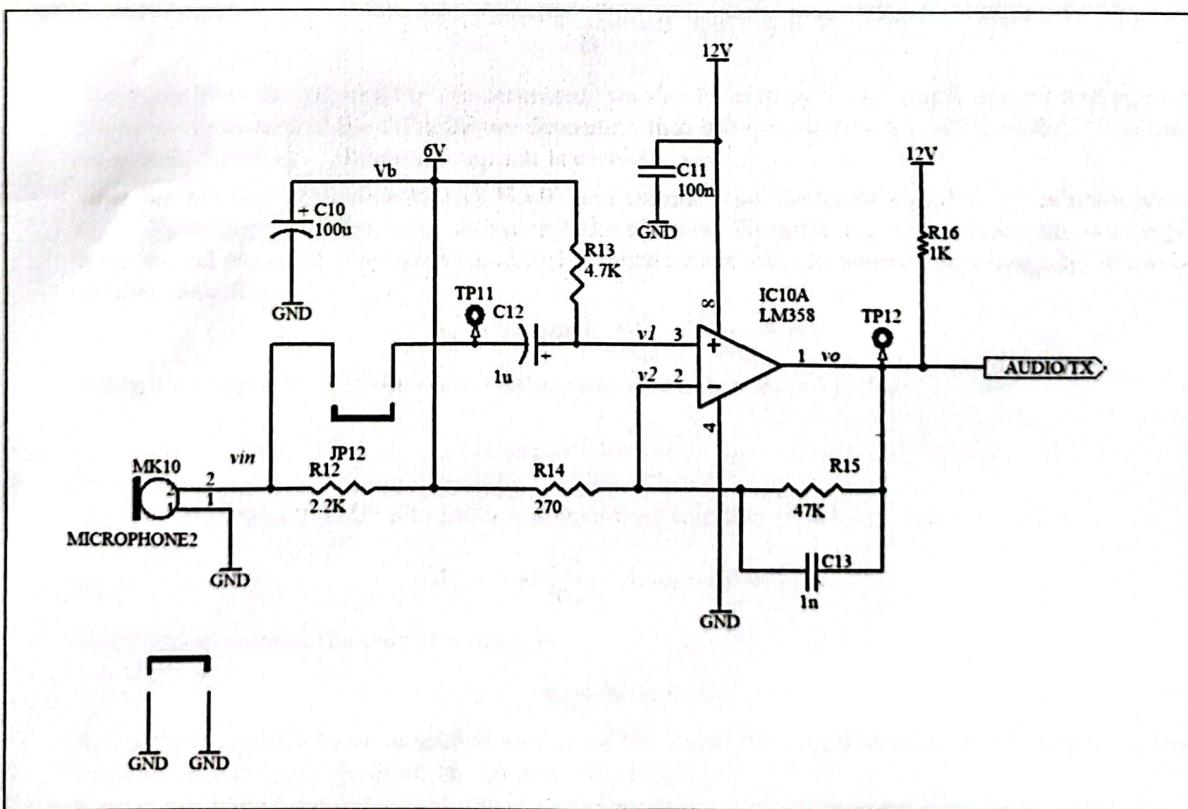

Figure 1: Schematic of microphone amplifier
1. Consider the TRC-11 microphone amplifier circuit shown in Fig. 1, making use of one of the two OPAMPs in LM358 integrated circuit. Since the OPAMP operates with a single supply voltage, the input DC voltages of the OPAMP should be shifted to a voltage somewhere between VCC=+12V and GND. For this purpose, we use the regulated voltage, +6V. Therefore, +6V acts like a ground, +12V acts like the positive supply, and GND acts like the negative supply of the OPAMP.